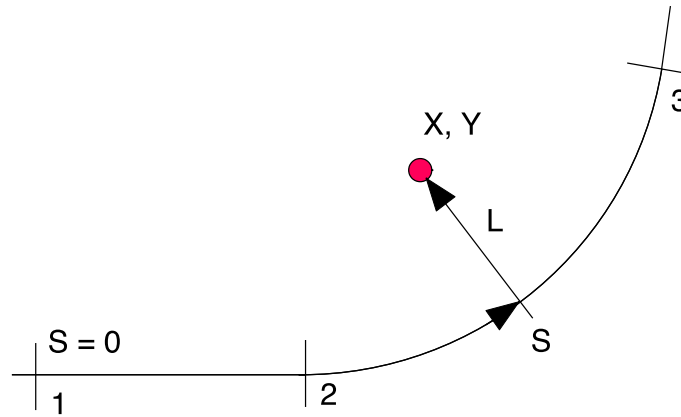

Figure 3.  $S$  and  $L$  are the coordinates of a reference path.
A VS Reference Path is a continuous line that exists in a horizontal plane with continuity in position and gradient. That is, there are no sharp corners. Paths are used in VS Math Models to define 2D coordinate systems that are alternatives to the global X and Y coordinates used in vehicle dynamics. The path coordinates are station S (distance along the path) and lateral coordinate L (distance a point is from the path, measured on a line that intersects the point and the path, and is perpendicular to the path at the point of intersection (Figure 3).
*Lateral coordinate,  $L$*  — distance a point is from the path, measured on a line that intersects the point and the path, and is perpendicular to the path at the point of intersection (Figure 3). The default name of a lateral coordinate variable is  $L$ .